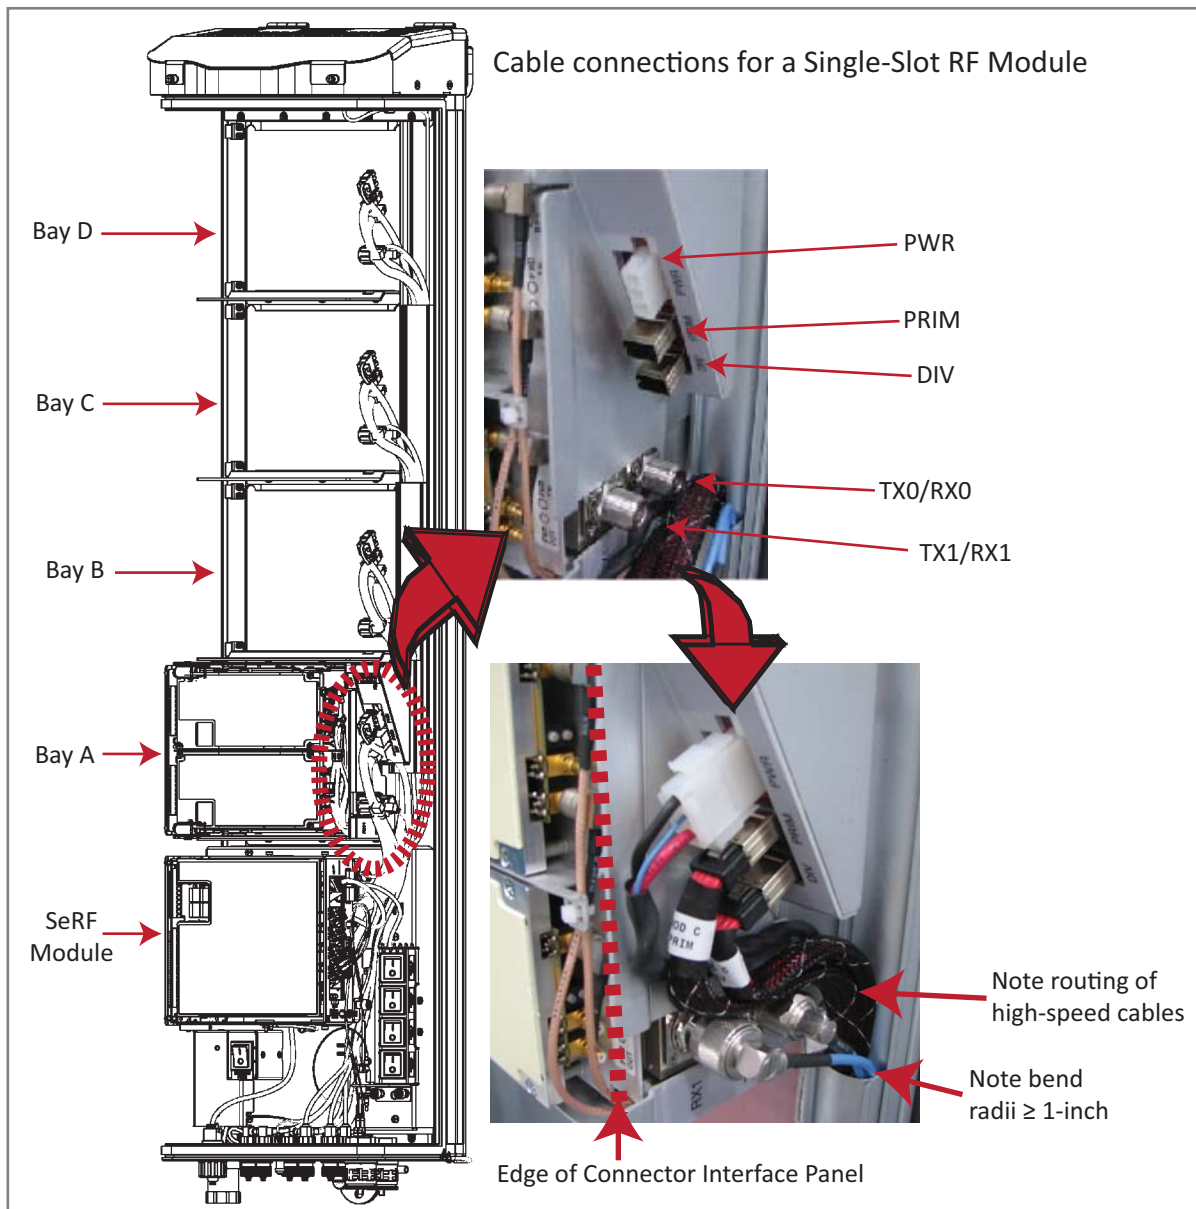
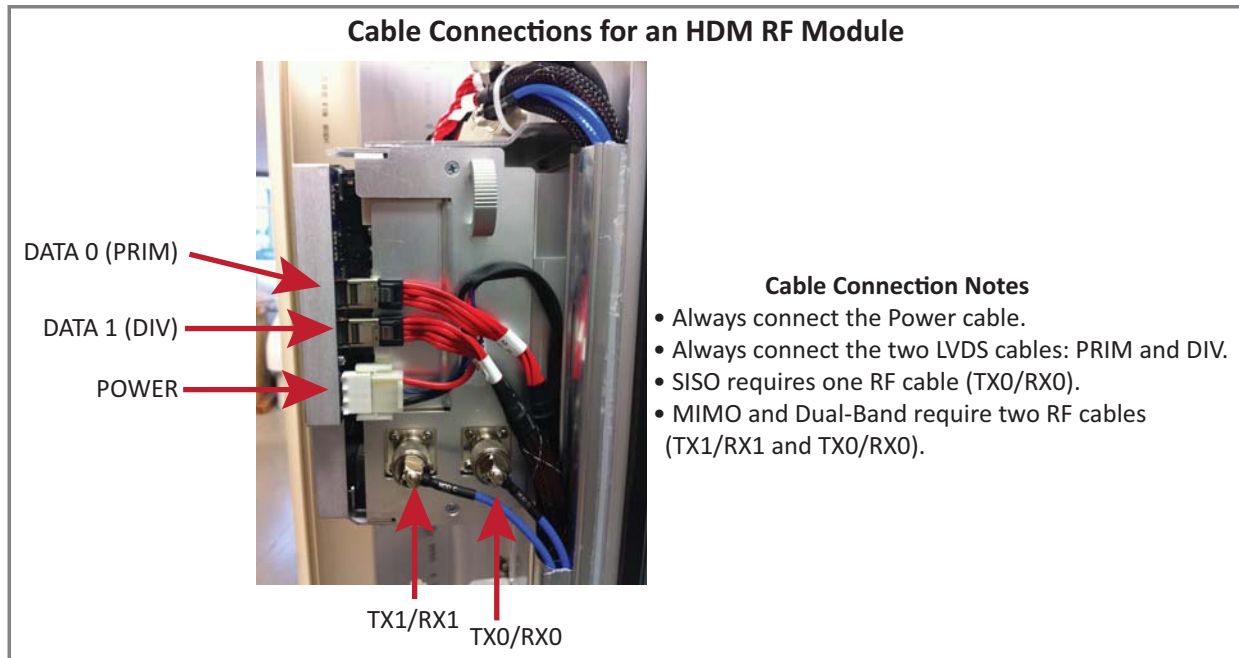

Figure 31. Cable Connections for Single-Bay RF Modules
Figure 32. Cable Connections for HDM RF Modules
- 3 Connect the RF Module cables, in the order shown below. As you work, refer to the graphic that corresponds to the RF Module being installed into a single bay of the PRU: for a Single-Bay RF Module, refer to Figure 31 on page 103, and for an HDM RF Module, refer to Figure 32 on page 104 and Table 25 on page 105.